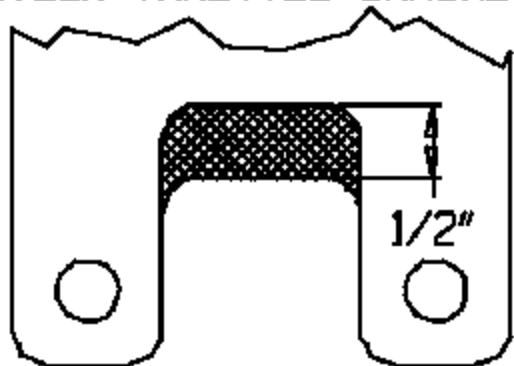

Figure 1
1. Due to the design of manifolds, the throttle and kickdown bracket on some vehicles may require modification to fit (*See Figure 1*).